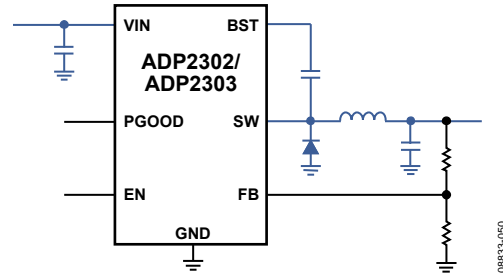

Figure 52. Typical Application Circuit with High Current Lines Shown in Blue
- Ensure that the high current loop traces are as short and wide as possible. The high current path is shown Figure 52.